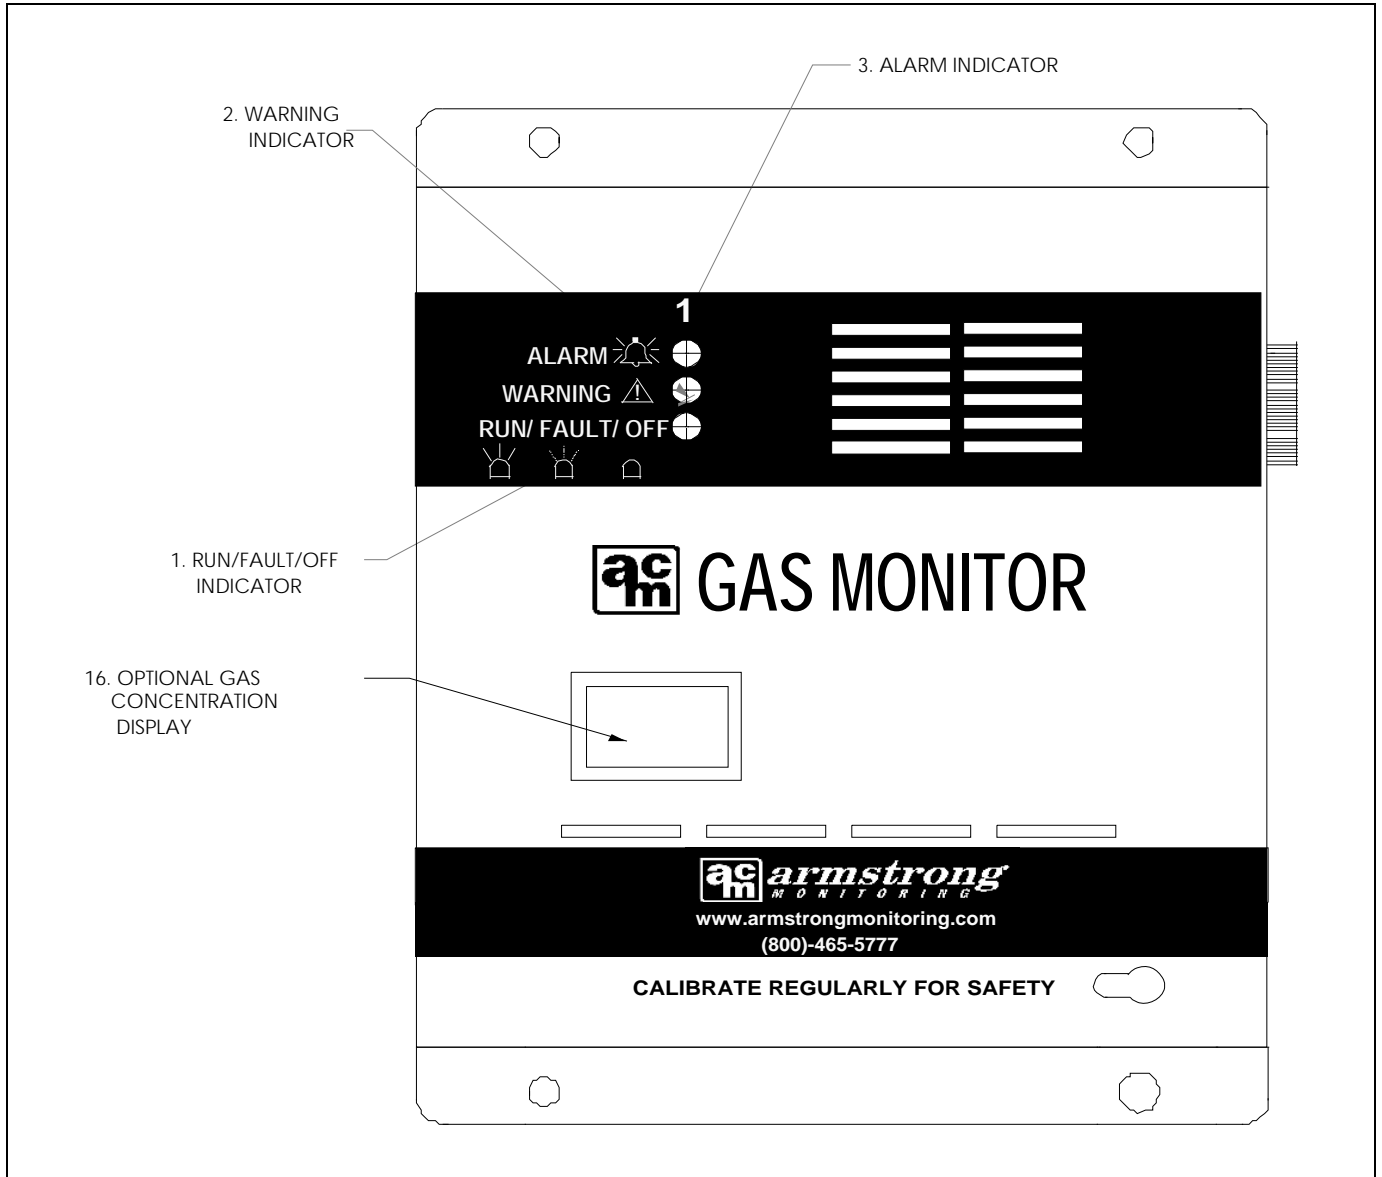
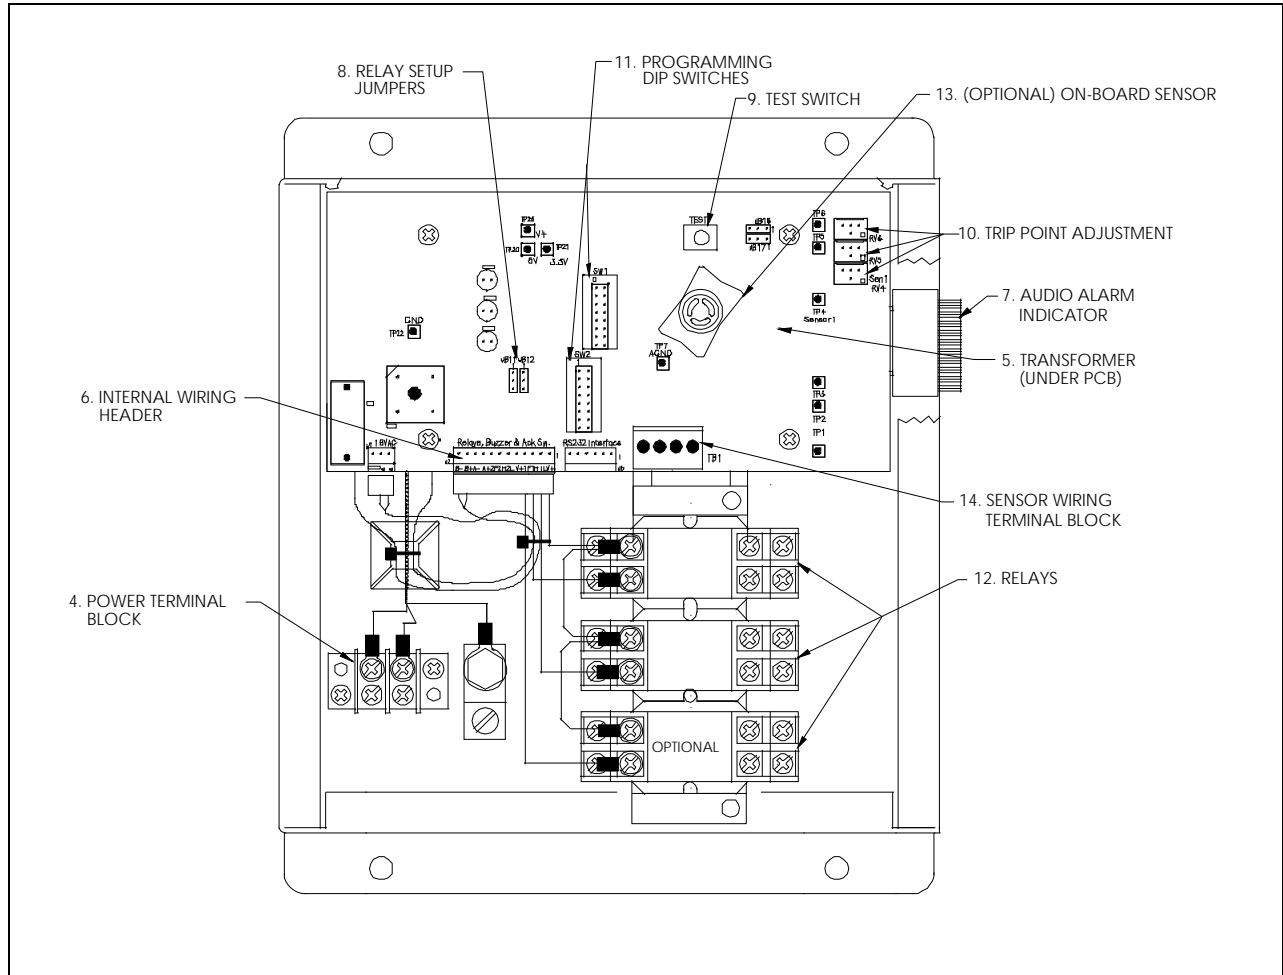
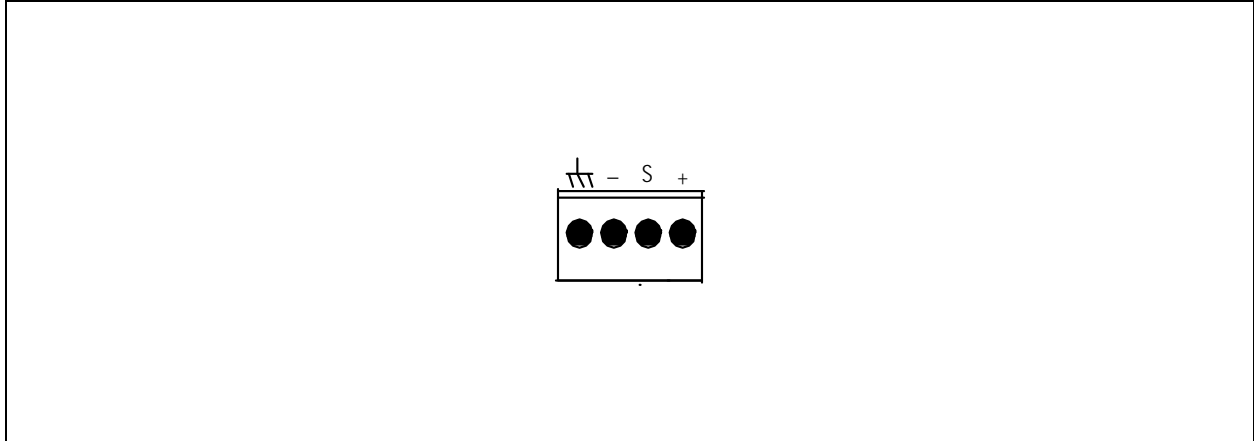

Figure 3-1 Gas Monitor 1A1, Front Cover
Figure 3-2 Internal Features of the Gas Monitor 1A1
Figure 4-8 Signal Input Terminal Block
An on board solid state sensor is employed where local monitoring at the monitor is sufficient. A 4-20mA transmitter is used to monitor gas in a remote location. Eight sensor modules can be daisy chained for the one channel input allowing larger area or zone to be effectively monitored. The monitor comes with the following features, see Figure 3-1 and Figure 3-2.
Each transmitter, sensor module or remote sensor connects to a set of sensor terminals (-, S, +) on the signal input terminal block located on the circuit board, see Figure 3-2, item 14. The signal input terminal block is located in the bottom right corner of the PCB and is capable of wiring inputs as shown in Figure 4-8. The following sections detail each of the remote transmitter or sensor wiring.